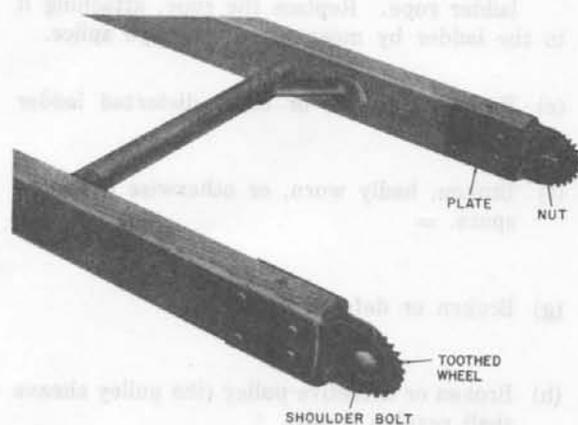

Fig. 38—Wheel Spurs
**10.36** Do not change the position of a wheel spur on only one side of ladder; always change both, even though one is not badly worn. Wheel spurs are illustrated in Fig. 38.